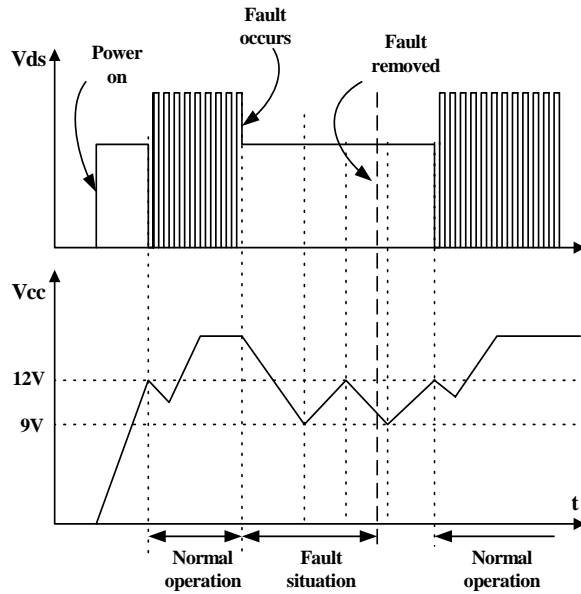

Figure 6. Auto restart operation
**3. Protection Circuits :** The FSES0765RG has several self protective functions such as over load protection (OLP), abnormal over current protection (AOCP), over voltage protection (OVP) and thermal shutdown (TSD). Because these protection circuits are fully integrated into the IC without requiring external components, the reliability can be improved without increasing cost. Once the fault condition occurs, switching is terminated and the Sense FET remains off. This causes Vcc to fall. When Vcc reaches the UVLO stop voltage, 9V, the protection is reset and the internal high voltage current source charges the Vcc capacitor via the Vstr pin. When Vcc reaches the UVLO start voltage, 12V, the FPS resumes its normal operation. In this manner, the auto-restart can alternately enable and disable the switching of the power Sense FET until the fault condition is eliminated (see figure 6).